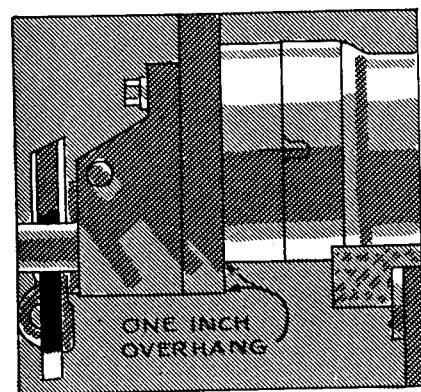

FIG. 431
1. Adjust the tool slide so that it is projecting not more than 1" beyond the bottom edge of the swivel block (Fig. 431).